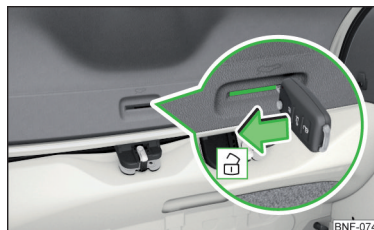

Fig. 130
- Insert the vehicle key into the slot in the boot lid trim panel » Fig. 130 as far as it will go.